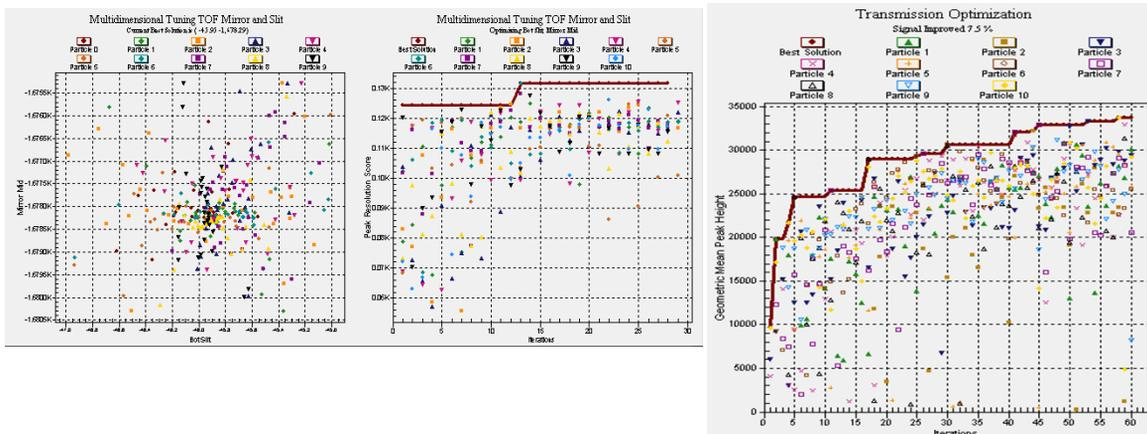

Figure 27 SWARM multi dimensional tuning to find the best combination of all parameters
- The red line represents the best scores achieved by the swarm. See Figure 27 on page 67.